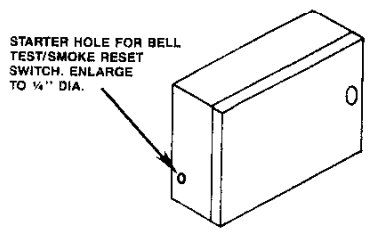

**FIGURE 1
4. Unswitched 12 Vdc is available at terminals 4 and 7 for auxiliary devices. All devices connected to terminals 4 and 7 are to be U.L. listed and must operate over a voltage range of twelve (12) to fourteen (14) volts DC.
5. Connect the six (6) input zones to terminals 11-19 using the 2.2K End of Line resistors provided as shown in Figure 1.